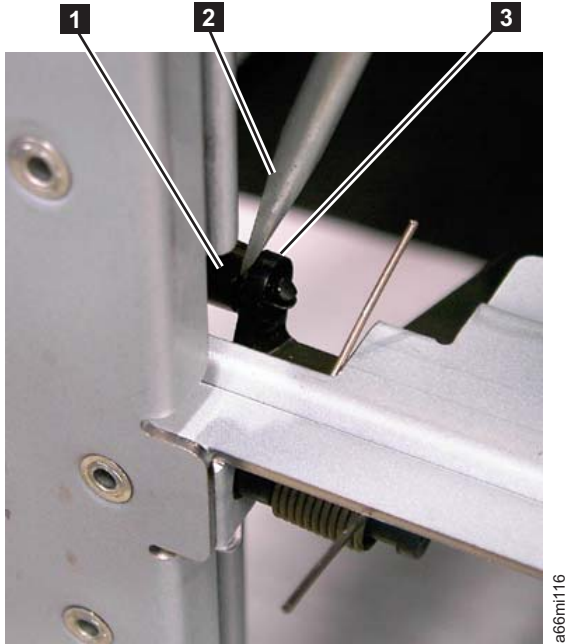

Figure 8-30. I/O Safety Flap Link
4. Disconnect the plastic link (**1** in Figure 8-30) from the bottom flap (**3** in Figure 8-30). Use a small screwdriver (**2** in Figure 8-30) to pry the link out of the hole in the bottom flap.